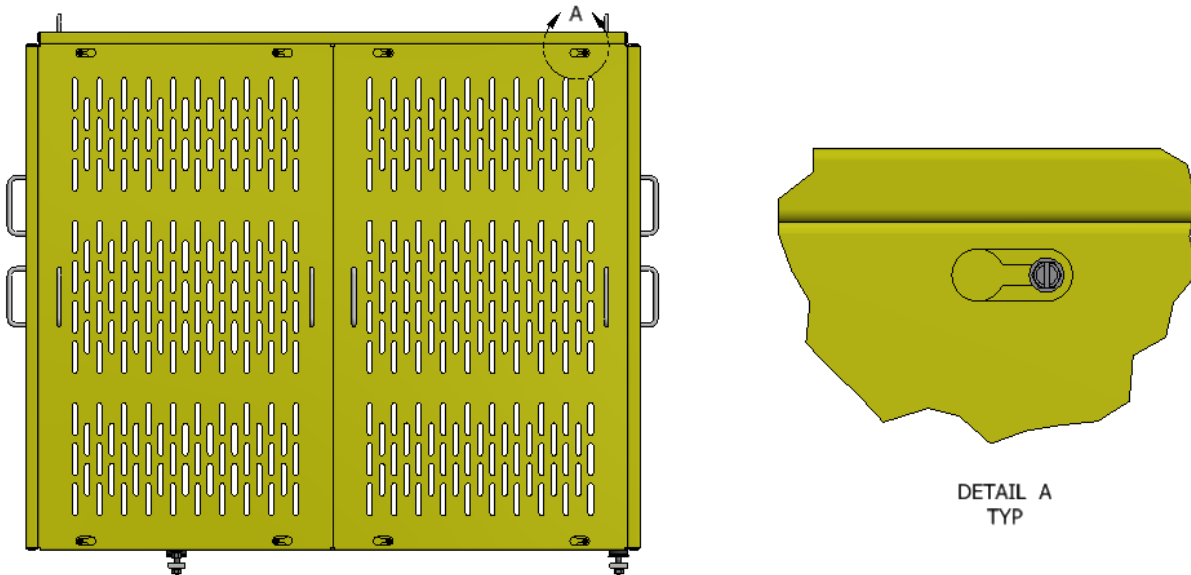

Figure 35: Access Panel Attachment
- To remove the Machine Guard Panels to access the Overhead Traction Machine, loosen the four (4) screws in each corner of the access panels as shown below (Figure 35). It is not necessary to completely remove the screws due to the attachment method provided. By only loosening the screws it helps to reduce the risk of lost hardware and/or FOD (Foreign Object Debris) in the area.
- After the four (4) mounting screws have been adequately loosened, the access panels may be first shifted a short distance and then pulled away from the Overhead Traction Machine Guard assembly for removal.
- Reattachment of the access panels can be done by reversing the process described above. Ensure the four (4) mounting screw are securely tightened after the access panels are reattached.